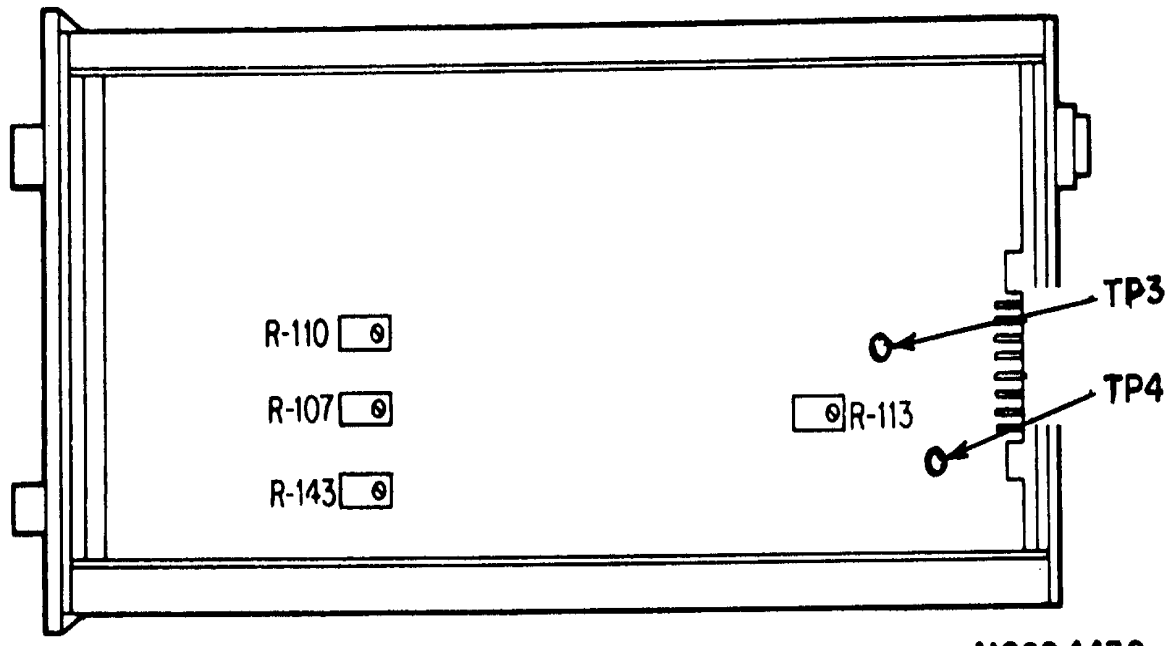

Figure 4. Model 13-4618-00 - side view.
(1) Connect digital voltmeter (A4) negative lead to TP3 and positive lead to TP4 (fig. 4), using two leads (B4).
- (1) Adjust R-113 ZERO (fig. 4) for 0.0 V indication on digital voltmeter (R).
- (2) Adjust R-110 50 HZ (fig. 4) for 0.0 V indication on digital voltmeter (R).
- (3) Adjust R-107 60 HZ (fig. 4) for 0.0 V indication on digital voltmeter (R).
- (4) Set DEVIATION RANGE switch to 5.
- (5) Adjust ac calibrator frequency for 18.1818 ms at 10 V and adjust R-107 60 HZ (fig. 4) for a digital voltmeter reading of -2.500 V (R).
- (6) Adjust ac calibrator frequency for 15.3846 ms at 10 V and adjust R-143 SPAN (fig. 4) for a digital voltmeter reading of +2.500 V (R).
- (7) Repeat (5) and (6) above to eliminate interaction.